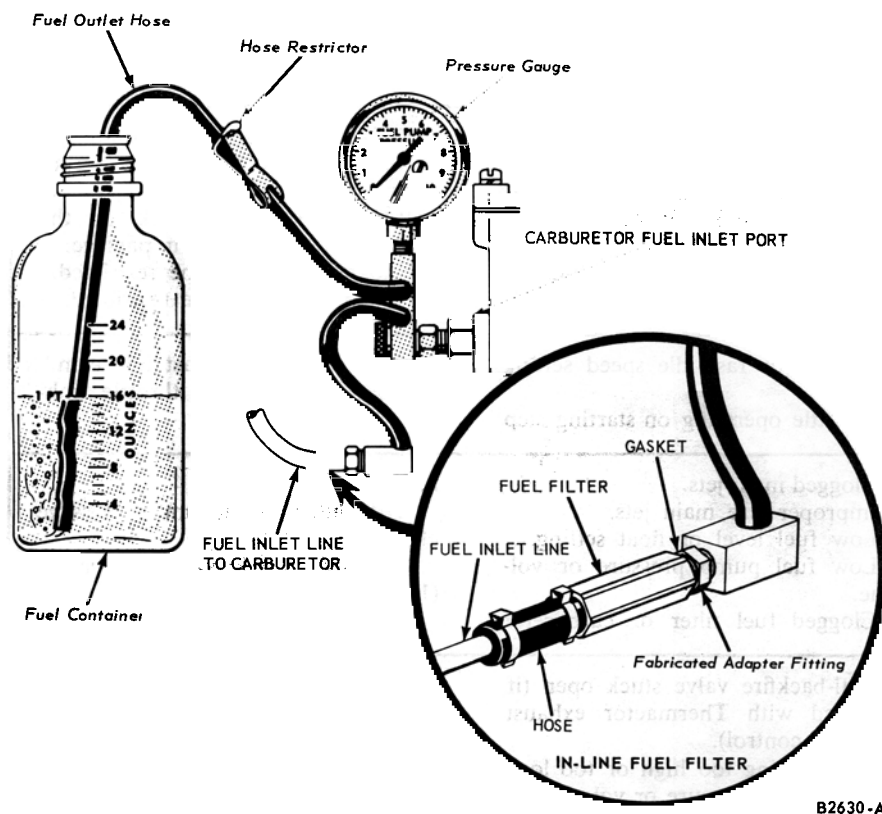

FIG. 2—Typical Fuel Pump Pressure and Capacity Tests
2. Connect a pressure gauge, restrictor and flexible hose (Fig. 2) between the carburetor inlet port and the fuel filter connections.
3. Position the flexible hose restrictor so that the fuel can be expelled into a suitable container (Fig. 2) for the capacity (volume) test.
2. Open the hose restrictor and expel the fuel into the container (Fig. 2), while observing the time required to expel one pint; then close the restrictor. One pint of fuel should be expelled within the specified time limit (Part 10-8).